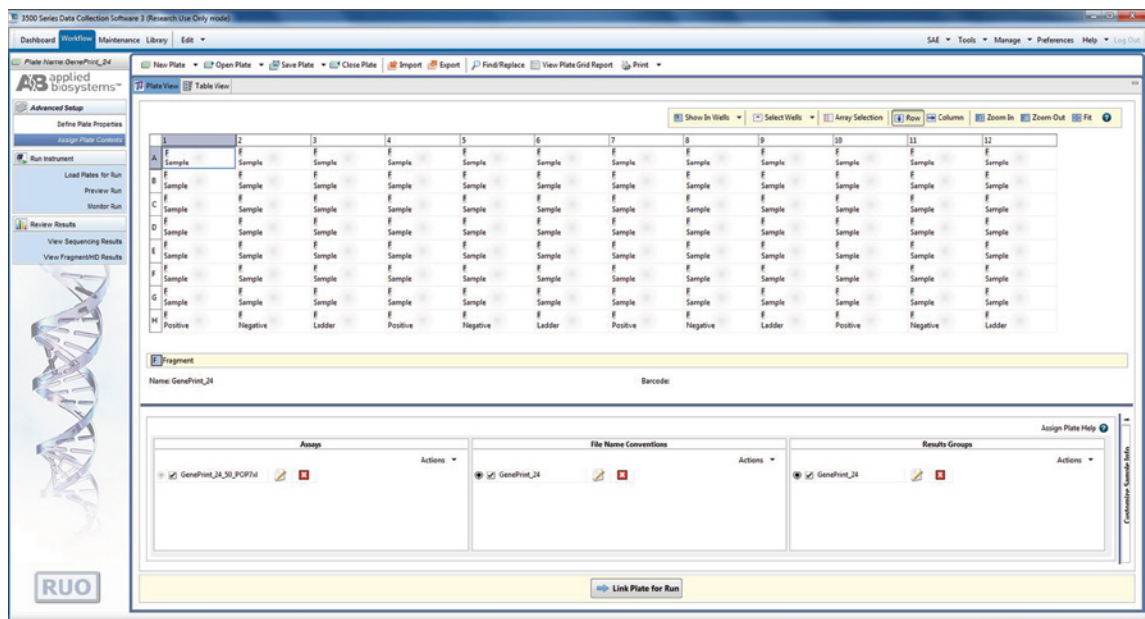

Figure 10. Assigning plate contents.
- e. In the lower left portion of the screen (Figure 10), under Assays, use the Add from Library option to select the Assay created in Step 5 or one previously created. Click on the **Add to Plate** button, and close the window.